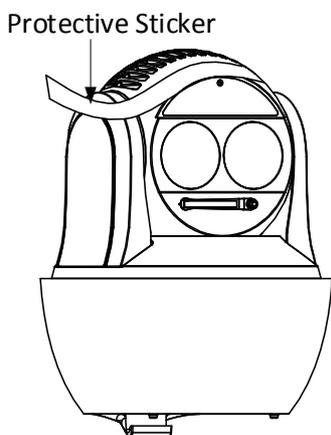

Figure 3-25 Remove Protective Sticker
1. Remove the protective sticker as shown in Figure 3-25.